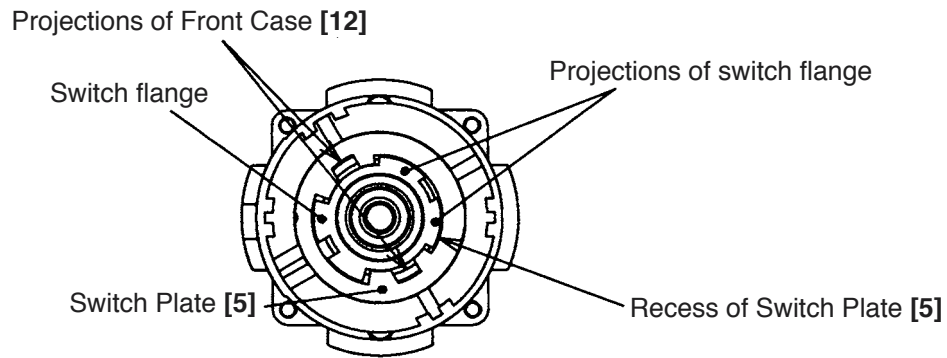
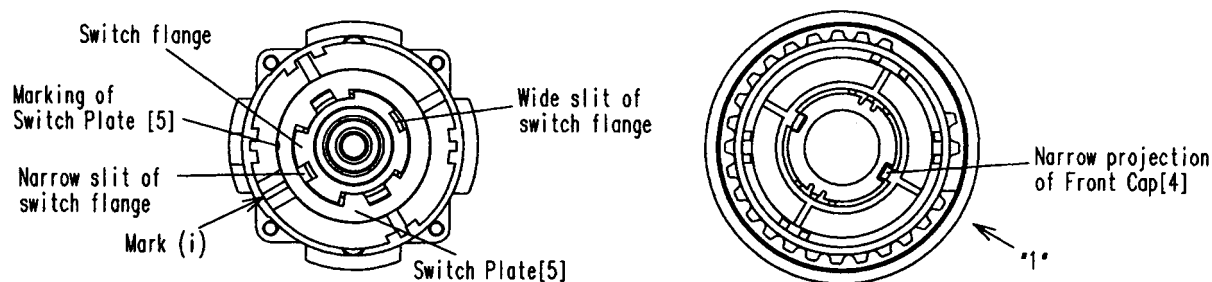

Fig. 4
Fig. 16
Turn the switch flange so as to fit the projection of the switch flange to the recess of the Switch Plate [5], then remove the Switch Plate [5] from the Front Case [12]. (See Fig. 4)
① Mount the Switch Plate [5] aligning with the projections of the Front Case [12] as shown in Fig. 4.
② Mount the Click Spring [11] to the Front Case [12].
③ When the Nut [6] is screwed in the Front case [12] about 1-11/12 turns (690°), the mark (i) of the Nut [6] and the marking of Switch Plate [5] are positioned as shown in Fig. 16. Set the narrow slit of switch flange as shown in Fig. 16. Mount the Front Cap [4] aligning the narrow projection of Front Cap [4] with the mark (i) of the Nut [6]. (The narrow projection of Front Cap [4] is positioned at "1" when viewed from the outside.)